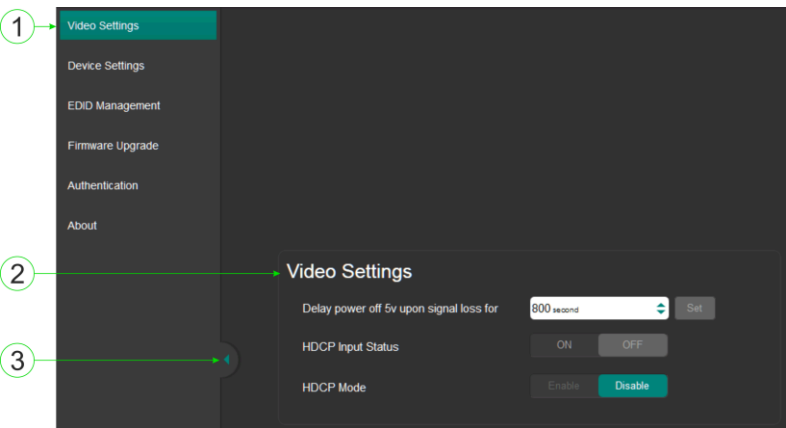

Figure 9: The Main Page
The main page appears as shown in Figure 9.
The Load/Save Configuration facility (see item 4 in Figure 9) lets you retrieve and save a configuration.